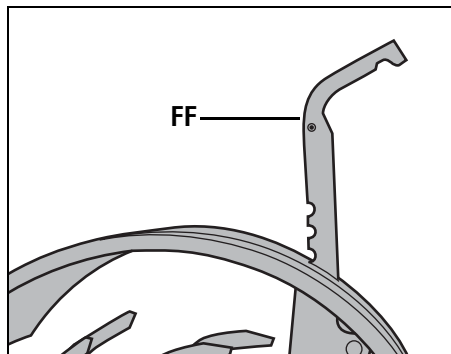

Fig. 2-10: Adjust Depth Regulator Lever.
1. With the tiller on level ground, pull the Depth Regulator Lever (FF, Fig. 2-10) back and then all the way up until the lowest notch in the lever is engaged.
2. With the tiller on level ground, move the Depth Regulator Lever (FF, Fig. 2-10) up or down until the engine is level.